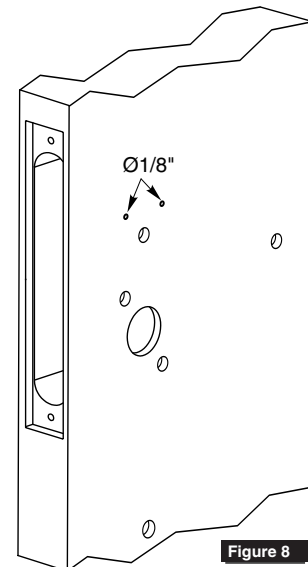

Figure 8
Drill two (2) holes (1/8") halfway through door. (Figure 8)